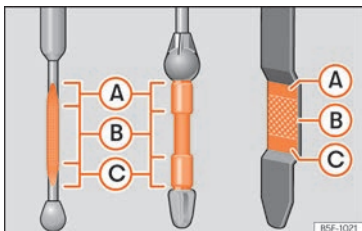

Fig. 288 Engine oil dipstick.
- Then pull it out once more and check the oil level »» **Fig. 288**. Top up with engine oil if necessary.
- When the oil level reaches at least zone »» **Fig. 288 B**, unscrew the engine oil filler cap carefully »» ⓘ.
If the oil level is above area »» Fig. 288 , do not start the engine. This could result in damage to the engine and catalytic converter. Contact a specialised workshop.
The oil level must never be above zone »» Fig. 288 . Otherwise oil can be drawn in through the crankcase breather and leak into the atmosphere via the exhaust system.